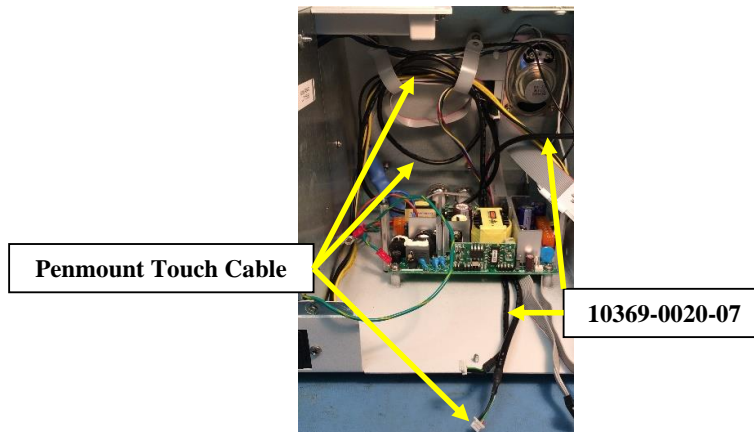

Figure 55
- 20.8. Thread the Penmount Touch Cable (coming from the display) under the Plastic Loop Clamps, then through them, as shown in Figure 55. Thread the Touch Cable through again, as shown. Thread the free end of the Touch Cable under the Power Supply, towards the right, as shown.
- 20.9. Thread the MiniPCI USB to Panel Cable (10369-0020-07) under the Power Supply, towards the right, as shown in Figure 55.